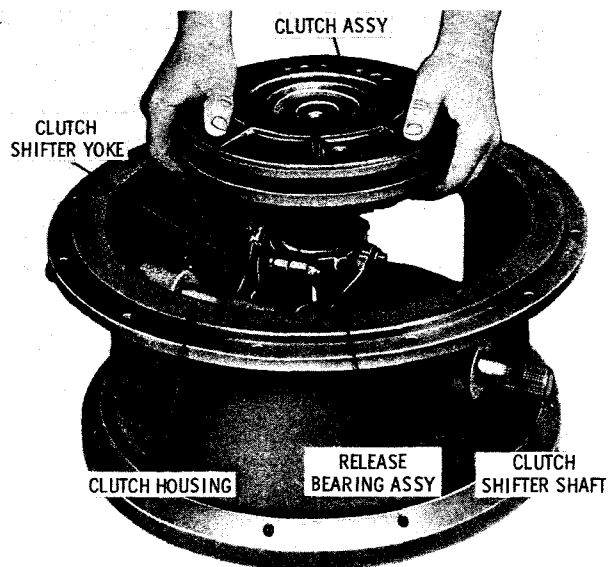

Fig. 6-7. Removing (or installing) input disconnect clutch assembly
(1) Use an 11/16-inch wrench to prevent flexible lubrication tube assembly 27 (A, foldout 7) from turning inside housing 4 (B, foldout 7); remove jam nut 26 (A, foldout 7). Push the tube assembly to the inside of the housing. The housing is marked for proper installation of the tube.
(2) Place clutch control hand lever 34 (A, foldout 7) in released (rearward) position and remove 3-segment facing 7.
(3) Remove bolt 36 and lockwasher 35 from hand lever 34. Remove the lever.
(4) Place the input disconnect clutch housing on its rear face (fig. 6-7).
(5) Straighten the tab on lockwasher 3 (A, foldout 7).
(6) Remove nut 2 and lockwasher 3.
(7) Remove clutch assembly 4 and key 28 from the shaft (fig. 6-7).
(8) Remove two bolts 29 (A, foldout 7) and lockwashers 30 from clutch shifter yoke 31.
(19) Center shaft 33 (A, foldout 7) in the housing and center yoke 31 on the shaft. Install two 3/8-16 x 1 1/4-inch bolts 29, with washers 30, in the yoke and tighten them 26 to 32 pound feet.
(20) Use a good quality heavy grease on key 28 and install the key in the clutch assembly keyway.
(21) Install the clutch assembly and the key on the shaft assembly. The yoke must be engaged with the clutch release bearing as the clutch assembly is lowered onto the shaft (fig. 6-7).
(22) Install lockwasher 3 (A, foldout 7) and nut 2 on the end of shaft assembly 8 (B, foldout 7). Position the washer with the tab in the keyway. Tighten the nut to 200 to 250 pound feet torque.
(23) Using a drift, bend a section of the washer against a flat on the nut.
(24) Install clutch control hand lever 34 (A, foldout 7).
(25) Install a 3/8-16 x 1 3/8-inch bolt 36 and washer 35 into lever 34 and tighten the bolt 26 to 32 pound feet torque.